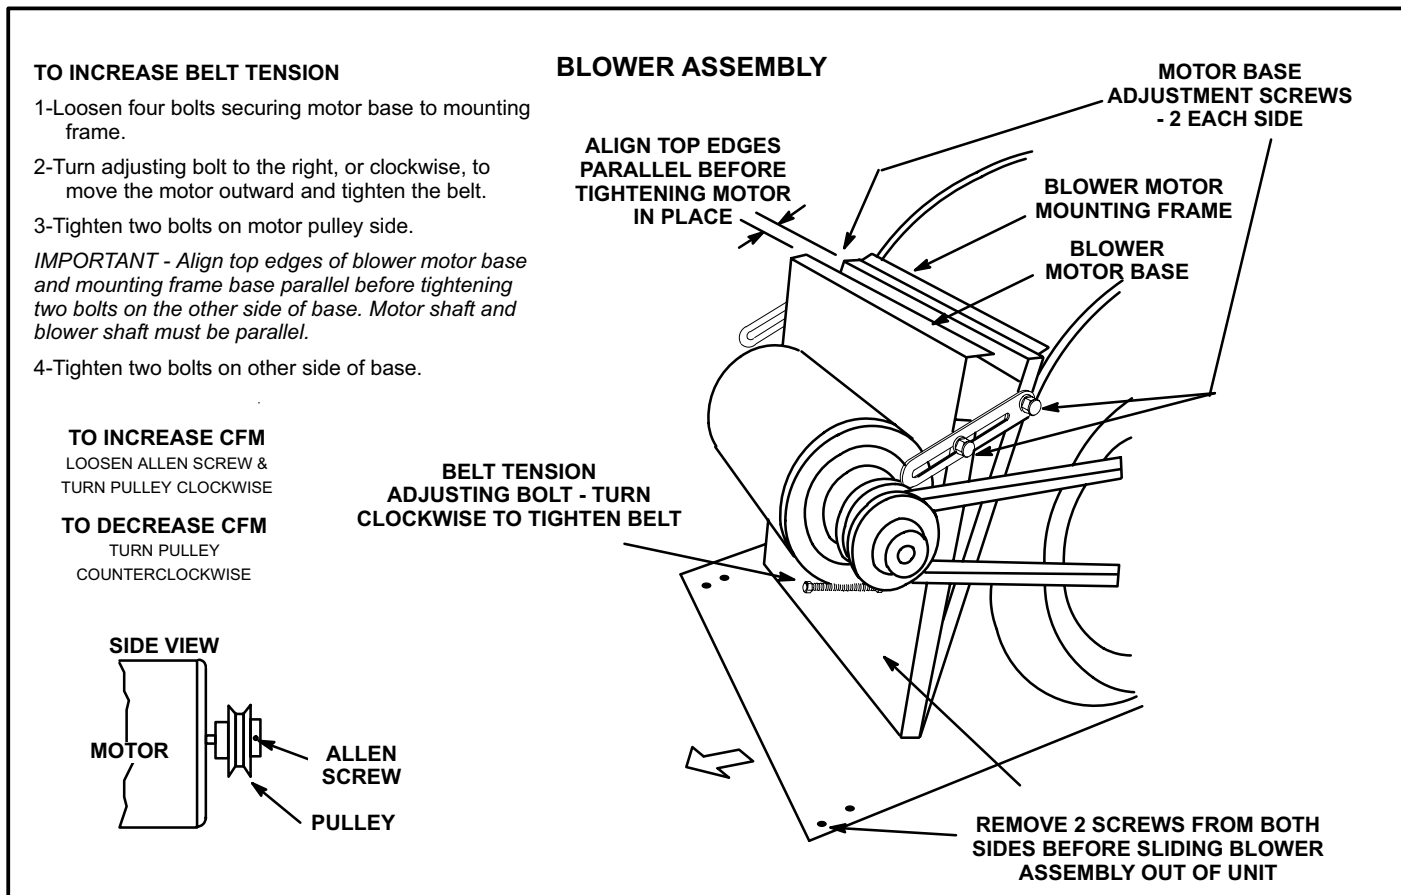

FIGURE 8
The blower compartment in all TCA090/150S units is located between the evaporator coil and the condenser coil section. The blower assembly is accessed by disconnecting the blower motor. See *Blower Access* in the Operation / Adjustment section. The blower pulls out as shown in figure 8.
The blower assembly is secured to a sliding base which allows the entire assembly to be pulled out of the unit. See figure 8.
- 4- The blower RPM can be adjusted at the motor pulley. Loosen Allen screw and turn adjustable pulley clockwise to increase CFM. Turn counterclockwise to decrease CFM. See figure 8. Do not exceed minimum and maximum number of pulley turns as shown in table 7.
1- Loosen four bolts securing motor base to mounting frame. See figure 8.